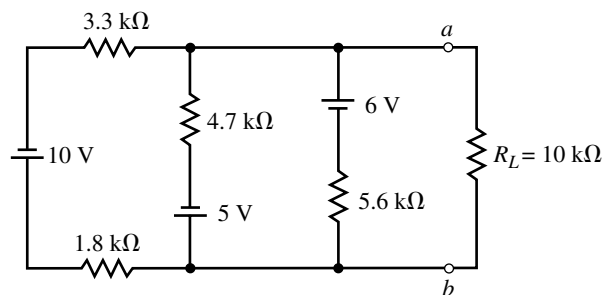

FIGURE 9-105
- 47. Repeat Problem 45 for the circuit of Figure 9-105.